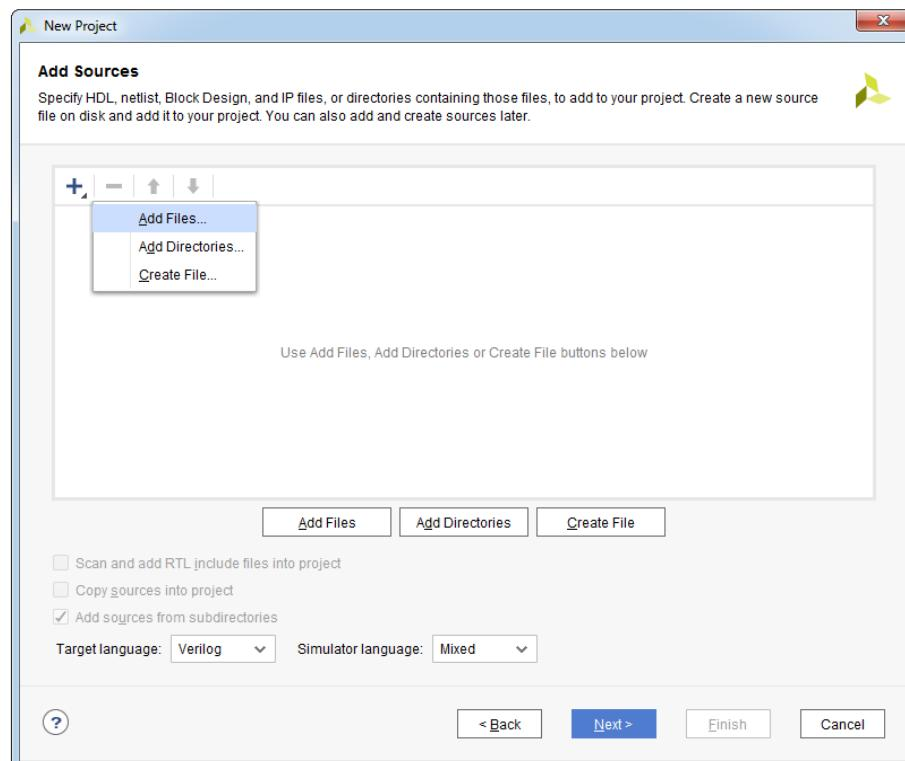

Figure 12.6: Add Sources dialog box
5. In the **Add Sources** dialog box, click + icon and choose **Add Files...** option to add HDL and Netlist files to your project, see Figure 12.6.